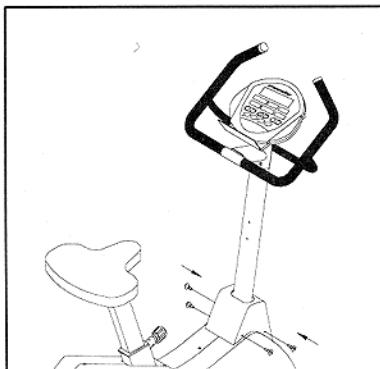

Fig.4
6. Slide the post cover down into place, and secure with four screws. (see Fig 4)